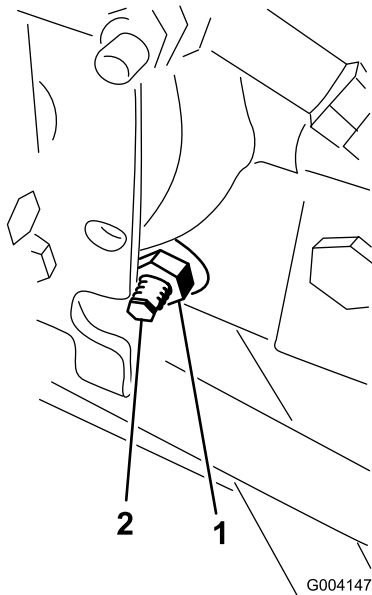

Figure 50
3. On the right side of the hydrostat, loosen the locknut on the traction adjustment cam (Figure 50).